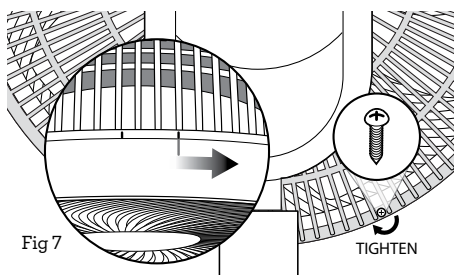

Fig 7
8. Securely tighten the assembled grilles using the Phillips screw and the Allen key provided (Fig 7).